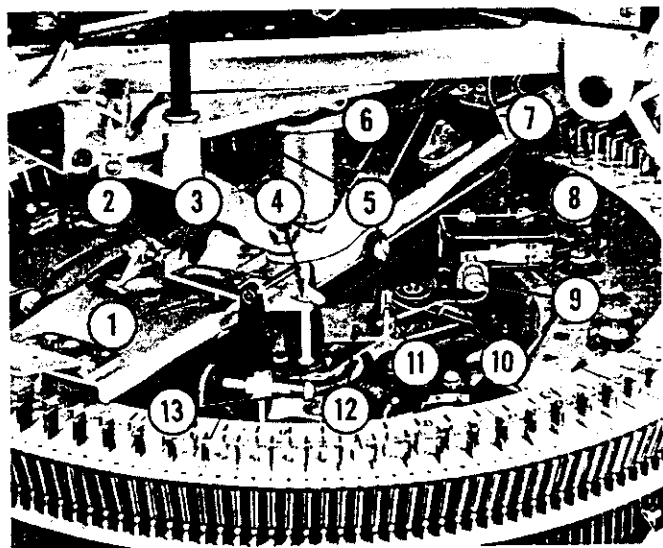
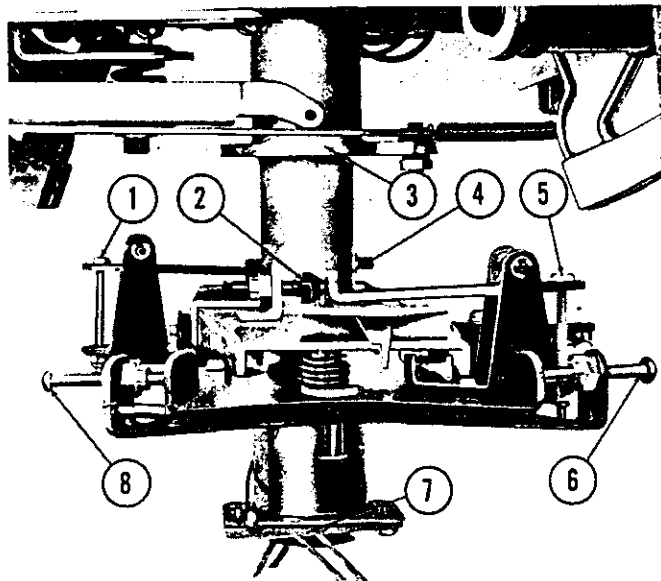

Fig. 19. SELECTOR CRANK SETTINGS
Fig. 20. SELECTOR CRANK SETTINGS
f. Selector Cranks and Carriage Switch Settings. (Figs. 19, 20, 21, and 22)
The two selector cranks are mounted on pivot screws (Item 5, Fig. 19) in the "mounting plate and stop nut assembly" (Item 7, Fig. 19). This group of
components, in turn, is mounted about the "selector shaft and adjustment plate assembly" (Item 12, Fig. 19) so that its lateral position may be varied with respect to the "selector shaft and adjustment plate assembly". The variation of this lateral position is governed by the several adjustment screws contained in the assembly to provide indexing of the selector latch pins with the corresponding record holders of the record carrier.
(1) The stop bracket (Item 3, Fig. 19) for each of the selector cranks should be set as shown in Fig. 20. The mechanism should be in its normal "at rest" position with the service switch off and the loading lever engaged in its playing position as shown at Item 3, Fig. 20. Set the stop bracket adjusting screws (Items 1 and 5, Fig. 20) to position the tab of the stop brackets to align their lower 1/3 of the flat surface with the ball bearing adjusting screw (Item 2, Fig. 20). The ball bearing adjusting screw will then be set to lightly contact the flat surface of the stop bracket. Any visible tolerance that may exist at the pivot screws of the selector cranks may be taken up at this setting.
(4) Using the outer selector crank (with adjustable tip) and one of the outer selector latch pins, set the tip to produce the same result described in (3) above. The relation of carriage switch actuation to back-stop pawl engagement must be identical with both inner and outer tips. When this is accomplished, set the adjustment plate (Item 6, Fig. 19) up against the tip and bracket assembly and lock it in position.